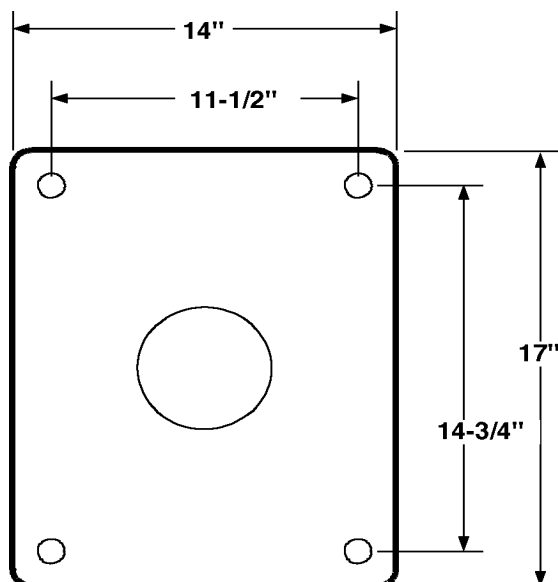

Figure C-1. MOUNTING DIMENSIONS
Using the holes in the base as a pattern, mark the location of the four mounting holes as well as the inside electrical access hole. Drill 13/16" diameter holes at these five (5) locations. See Figure C-1. Deburr all holes.